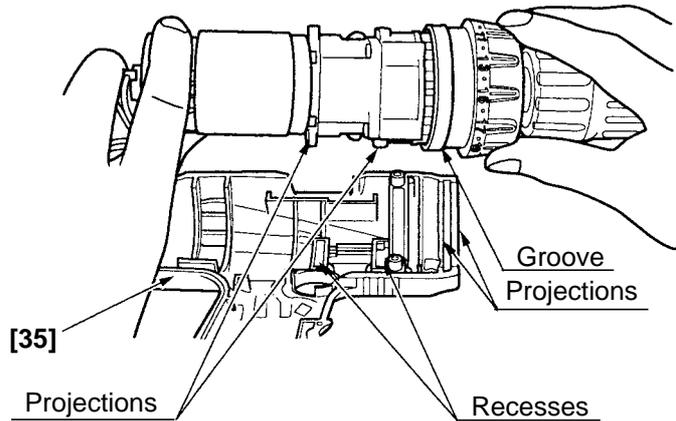

Fig. 15
(b) Install the assembly reassembled in step (3) into Housing (A) [35]. Note that the projections on the Front Case [12] and the Motor Spacer [30] are engaged in the recesses in Housing (A) [35], and the projection on Housing (A) [35] is engaged in the groove of the Cap [4]. (See Fig. 15.)